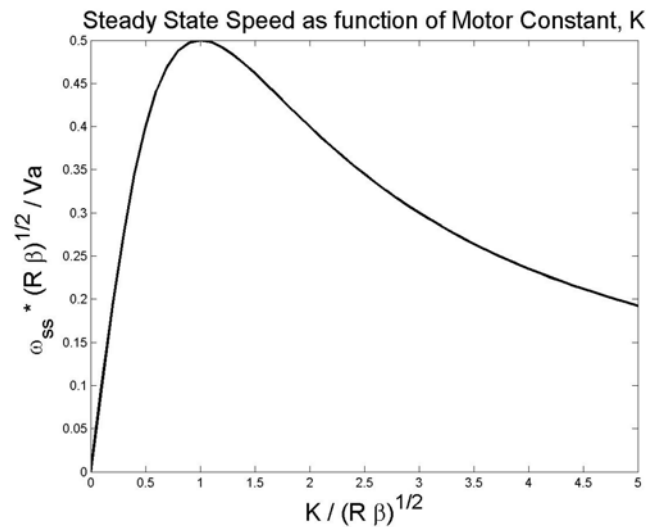

Figure 4: Steady state speed, ω_{ss} , reaches a maximum when $K = \sqrt{R\beta}$.
Let's do something clever and plot Equation 2 as a function of K (Figure 4). We discover that, for a given voltage, the motor reaches a maximum speed when:
- (1) You are the proud owner of a battery powered go-cart. The DC motor, powered by a voltage source, has been engineered to run optimally with a 70 kg driver. However, you use it to transport party supplies, and the total mass is 100 kg.
- (b) * Does the speed decrease? (Hint: Look at Figure 4. Changing the constant in Part (a) moved the operating point to a different point on this curve.)
- (e) **Optional:** If the go-cart were put on an incline, the frictional torque would acquire a constant gravity term, L , so that $\tau_f = L + \beta\omega$. Balance τ_m and τ_f to find the effect of this additional term on ω_{ss} in Eqn (2).
- (2) One of the goals of this lab is to introduce you to the oscilloscope and basic plotting functions in MATLAB. Find an Athena station and open MATLAB. (You can also download it from MIT at <https://msca.mit.edu/cgi-bin/matlab>. Follow the installation instructions carefully to get the license working correctly on your computer.) Try the following commands. If you become very frustrated, seek help from a friend or go through an online tutorial (a basic one can be found at <http://www.cyclismo.org/tutorial/matlab>).